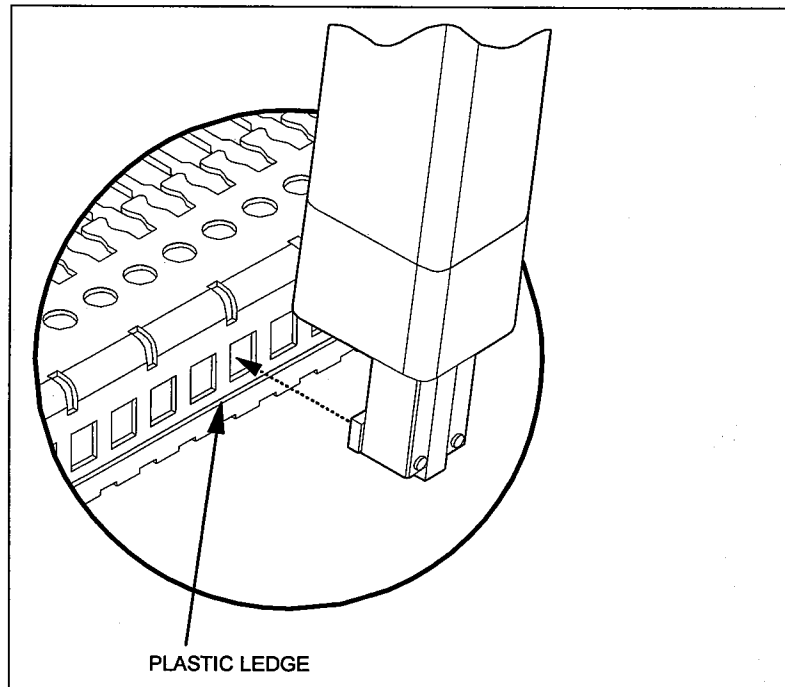

Fig. 4
- 5) Once the guide module is out, reposition the HDM Daughter Card Removal Tool so that the rectangular pins go into two rectangular slots near one end of the stiffener. The push bar must rest on the plastic ledge and the tool be tipped away from the stiffener about 10 to 15 degrees. See Fig. 4.